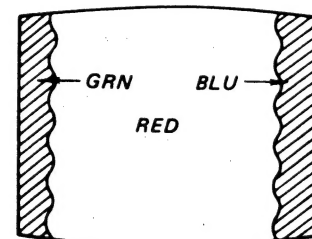

Fig. 3-2
- 5 Move the deflection yoke back, and adjust the purity control so that **R** is in the center and **G** and **B** are at the sides, evenly. (Figure 3-2.)